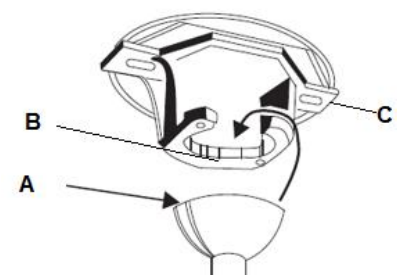

Fig. 8
Lift the fan assembly onto the mounting bracket. Ensure the registration slot (A) of the hanger ball is positioned on the stopper (B) of the mounting bracket (C) to prevent the fan from rotating when in operation. Fig.8